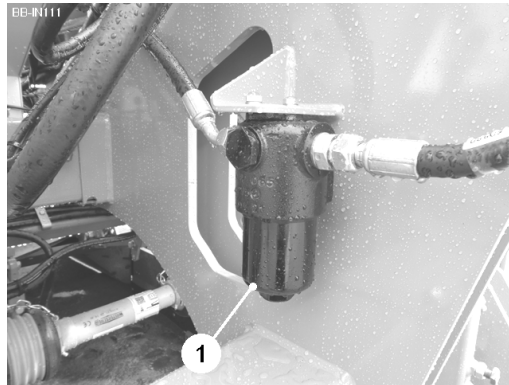

Fig. 23
The pressure filter (item 1, fig. 23) should be replaced after the first 50 hours running time and then every 500 hours or annually thereafter.